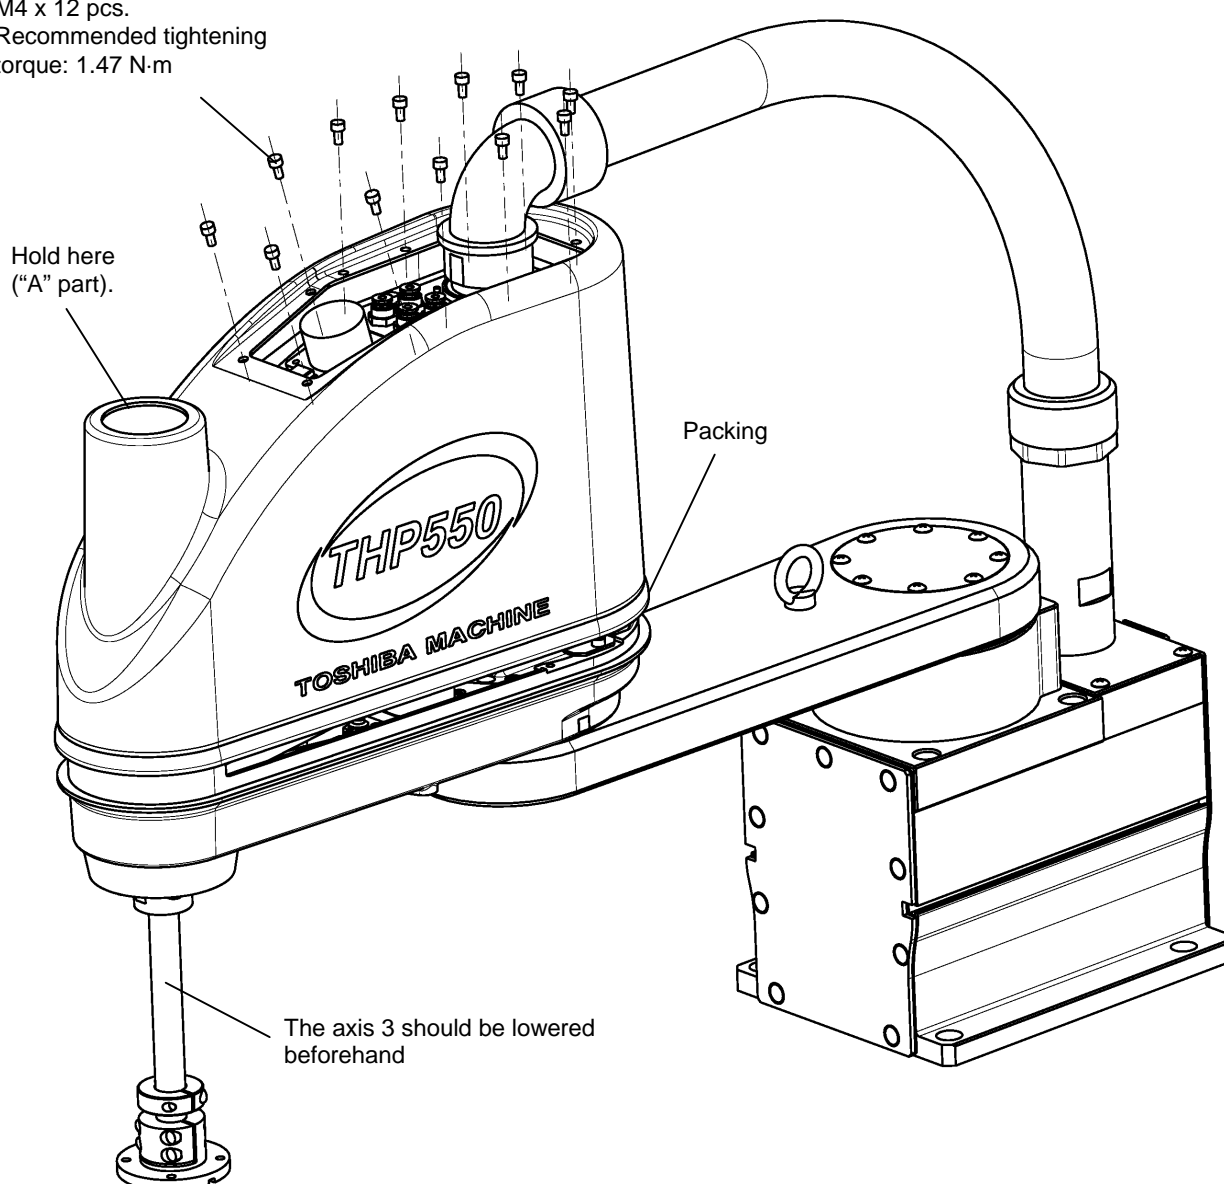

Fig. 2.9 Arm 2 cover (Common to TH450A, TH550A and THP550)
The arm 2 cover is secured to the cover set bracket with six (6) socket head bolts (M4 x 8). As the arm 2 cover is inserted into the arm 2, it can be lifted once the screws are removed. The inserted unit may not be disengaged easily, however. When this happens, it is recommended that the axis 3 be lowered beforehand until the ball screw stopper enters the cover so that you can hold the ball screw hole ("A" part in Fig. 2.9) when lifting up the cover. The packing attached to the cover can be disconnected together with the cover.